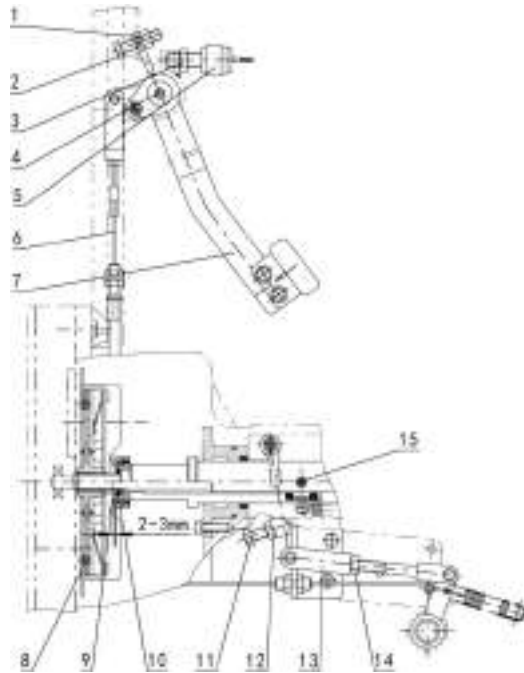

Fig.6-1 Single action clutch
Rotate the fork 13, lock the nut 14 when the distance between 10 and 9 is 2-3mm.(see fig.6-1).
Rotate nut 1 and 12, adjust 2 and 11, then step on the clutch pedal 6. Lock nut 1 and 12 when the clutch is fully separated. Need to readjust the stay wire after working for a period of time(see fig.6-1).
Release lock nut 3, adjust start button 5, when the clutch pedal is pressed, the distance between the clutch control panel and the starting switch contact is reduced by 2~3mm. then lock the nut 3(see fig.6-1).
Front bearing should be added lubrication grease before assembling, release bearing 10 not need to add lubrication grease normally. When the tractor is working for 1000h, or when it is found that the bearing has an abnormal noise, pour grease into the oil cup (15). Step on the clutch pedal repeatedly until the bearing is filled with grease. Check the oil cup 4 on the clutch pedal regularly. When the phenomenon of card lag occurs, it is necessary to add sufficient grease(see fig.6-1).
③ Adjustments for tooth clearance and tooth flank imprints (fig. 6-1 shows the adjusting methods)